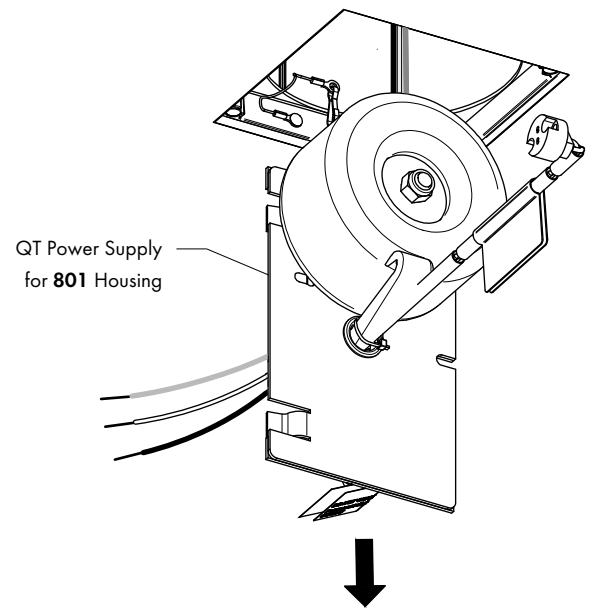

FIG 7.3 Remove Power Supply from 801 Housing
STEP 5 Pull Power Supply Subassembly through aperture - **FIG 7.3**.